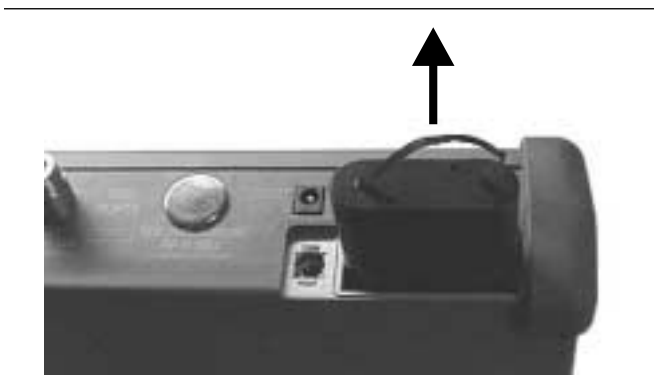

Figure 9. Removing the Battery
5. Replacement is the opposite of removal. Note the orientation of the battery contacts, and be sure to insert the new battery with the contacts facing the rear of the unit (Figure 9).